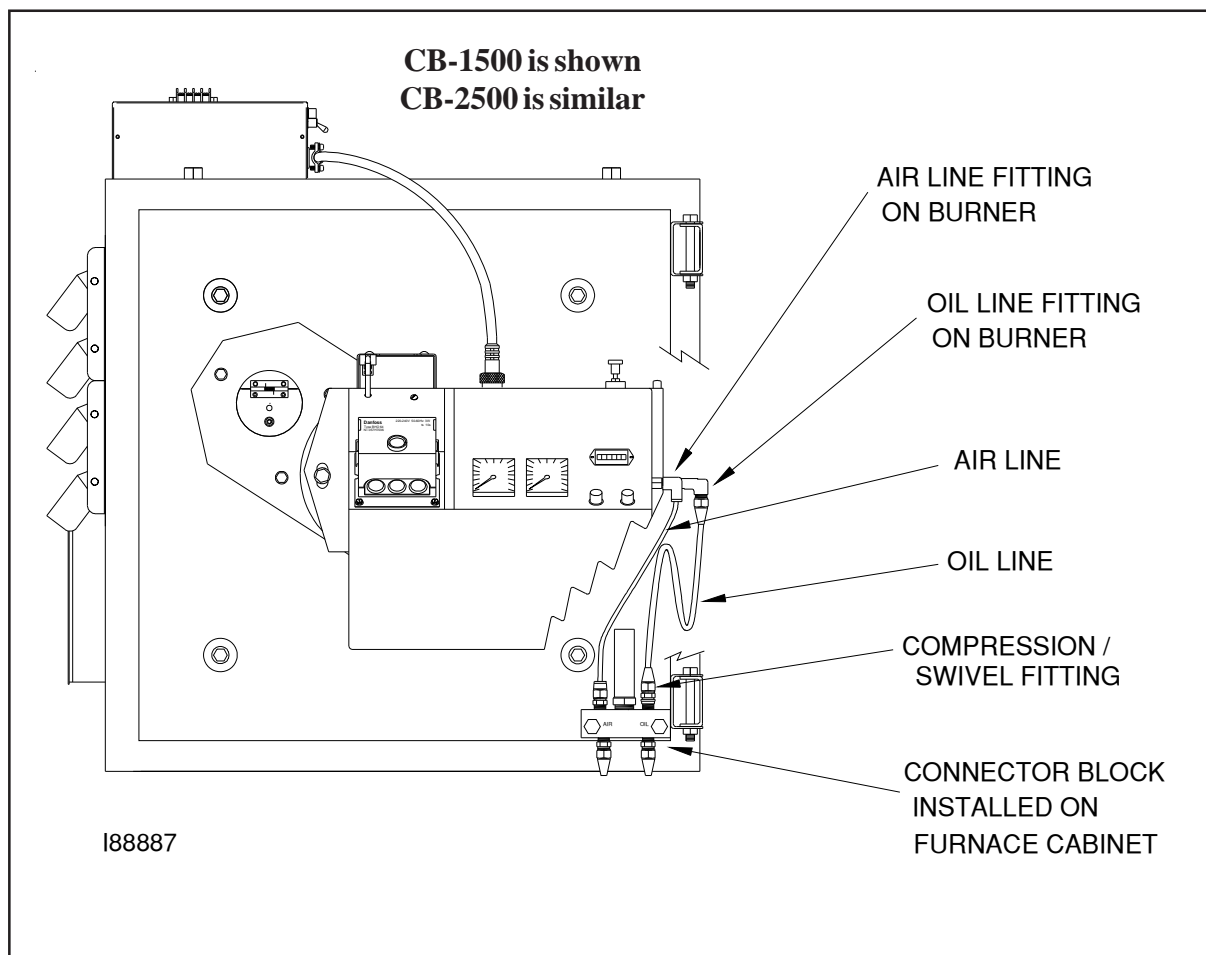

Figure 3H - Installation of Connector Block, Oil Line and Air Line (Front View)
3. Use a wrench to slightly rotate the oil line fitting on the burner counterclockwise so the tubing lines up with the swivel assembly. Slightly bend the tubing as shown in Figure 3H, if required, to "line up" the oil line.
NOTE: You may also check the positioning of the oil line according to Figure 3H which provides a larger front view of the connector block assembly.
2. Refer to Figure 3H. Push the air line tubing into the swivel fitting on the connector block until the tubing bottoms out in the fitting.